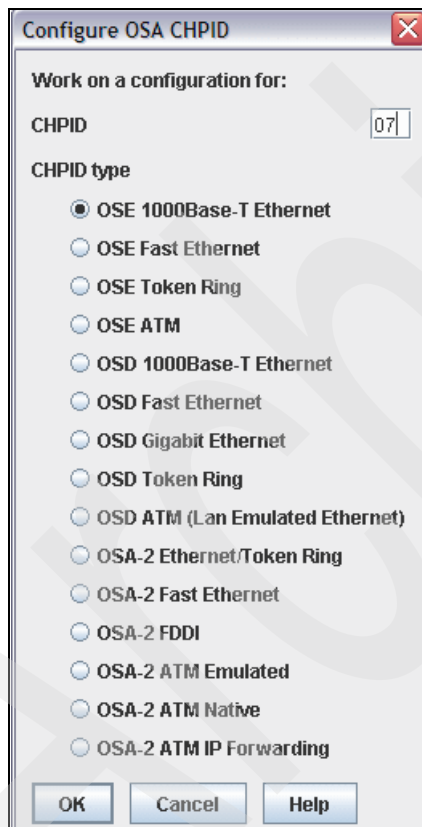
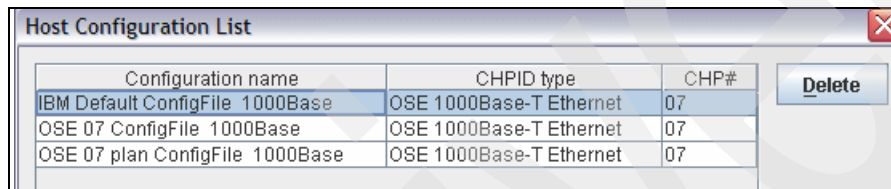

Figure 4-22 OSA/SF Workstation Interface - Configure OSA CHPID
Figure 4-24 OSA/SF Workstation Interface - Host configuration list (OSD 1000Base T Ethernet)
2. The Configure OSA CHPID panel displays (Figure 4-22). Select the CHPID number and the CHPID Type that you want to define, then click **OK**.
4. OSA/SF displays a Host Configuration List panel containing the names of previously saved configuration files that match the feature type (Figure 4-24).
Note that the Host Configuration List being displayed will vary with the OSA Express2 feature type selected in Figure 4-22. For example, a request for OSD 1000BaseT Ethernet displays the list shown in Figure 4-24.